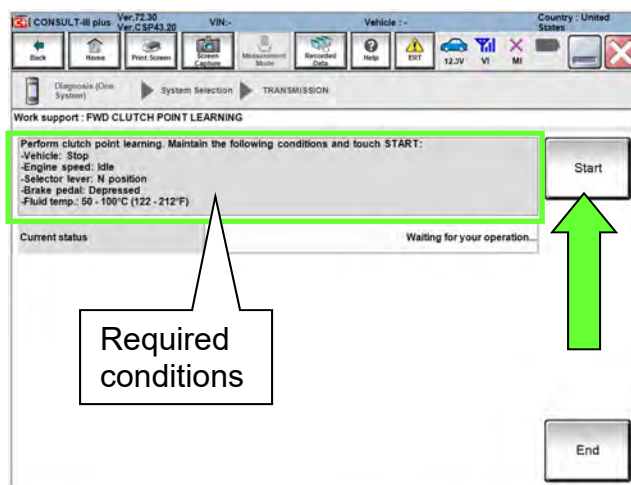

Figure 43
- Confirm that all of the required conditions indicated in Figure 43 are being met.
55. While maintaining all conditions shown in Figure 43 and the “Current status” indicates “EXECUTING”, shift the CVT into **D** and then wait until the Current status indicates “COMPLETED”.